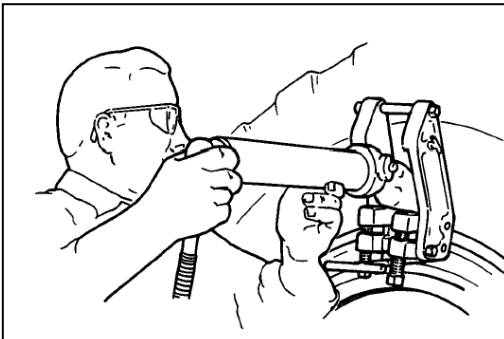

Figure 4
- Lift cylinder until trunion engages frame shoulder and move stop screw into support cylinder. See Figure 4.